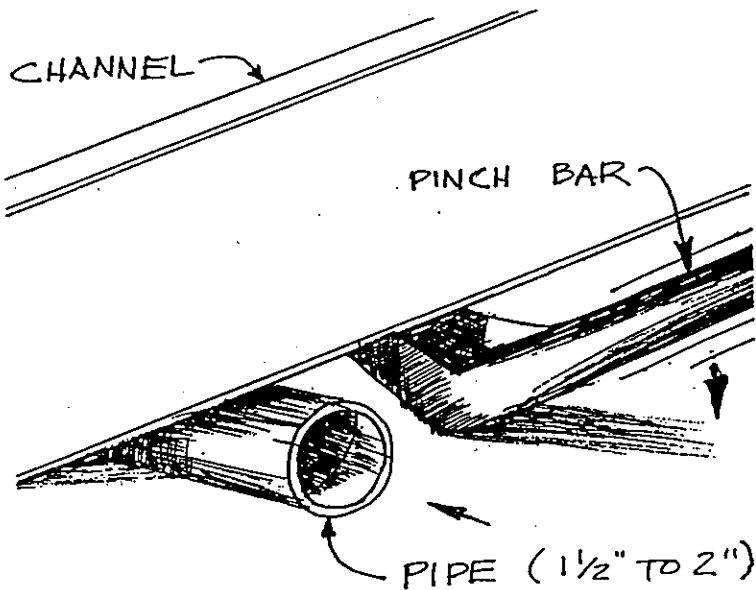

Figure 14.2a
Six (6) pieces of pipe of appropriate diameter, 6" to 12" long and a 5' long pinch bar with beveled edge on bottom. See Figure 14.2a and 14.2b to verify condition and procedures for reinstalling base on track.
Pry frame up near the center of channel and slip pipe under frame channel, see Figure 14.2a. Do this at six (6) locations. See Figure 14.2b. Push unit until wheels are centered over the track. Use the pinch bar to pry up enough to remove the pipe from under the frame channels closest to the wall. Place one set of wheels on the track at a time. Repeat this operation until all wheels are on their tracks.